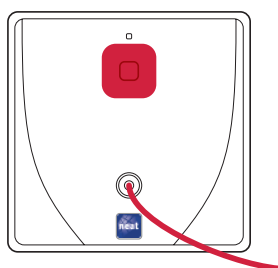

Fig. 1 Front PUSH+PULL
- 9 Pull the string from the front side (Fig. 1) to make a test.